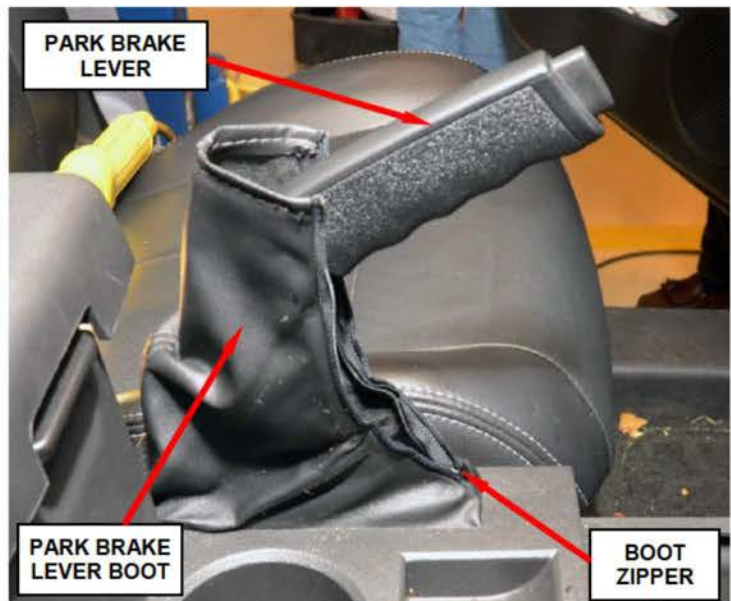

Figure 10 – Park Brake Handle Boot
6. Unzip the park brake lever boot (Figure 10).
18. Zip-up the zipper on the park brake handle boot (Figure 10).